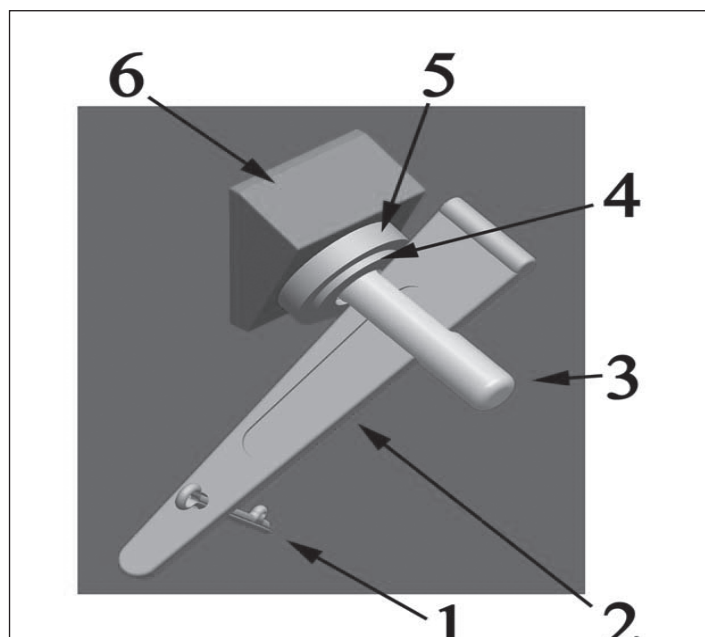

Figure 6.18 - Screen Tension Wedges
3. Remove retaining split pin (item 1) Figure 6.18.
4. Tap wedge (item 2) lightly with a suitable hammer.
5. Remove wedge, pin (item 3), Washer (item 4) and spacer (item 5).
9. Once the wedge system is re-assembled tension the mesh by driving the wedge (2) through the pin using a hammer. Drive each wedge in the same amount to, achieve even pressure on the clamp plate.